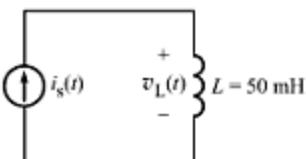

Fig. E-13
- E-6. A 50-mH inductor is connected to a current source of  $i_s(t) = 0$ , for  $t < 0$ , and of  $i_s(t) = 150 t^3$  A, for  $t > 0$ . Calculate the voltage across the inductor,  $v_L(t)$ , with the polarity shown in Fig. E-13.